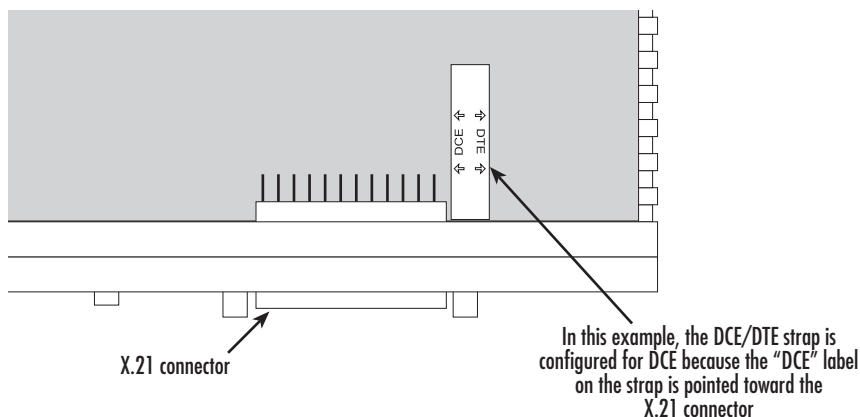

Figure 5. Location of DTE/DCE board
2. Locate the small daughter board on the Model 2621 board to the right of the DB-15 connector (**figure 5** shows location of DTE/DCE daughter board).